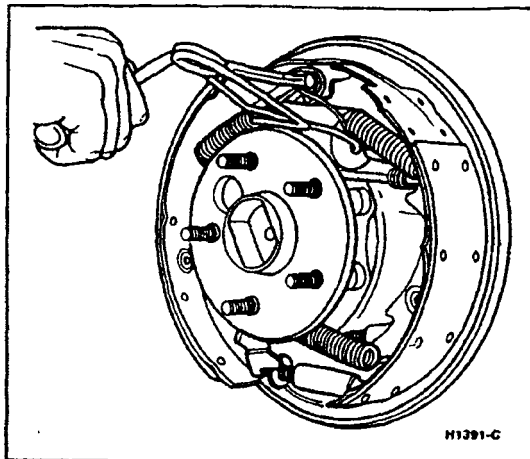

FIG. 6 Retracting Spring—Installation
6. Install the primary shoe to anchor spring (Fig. 6).
8. Install the secondary shoe-to-anchor spring (Fig. 6). Be certain that the cable eye is not cocked or binding on the anchor pin when installed. All parts should be flat on the anchor pin.